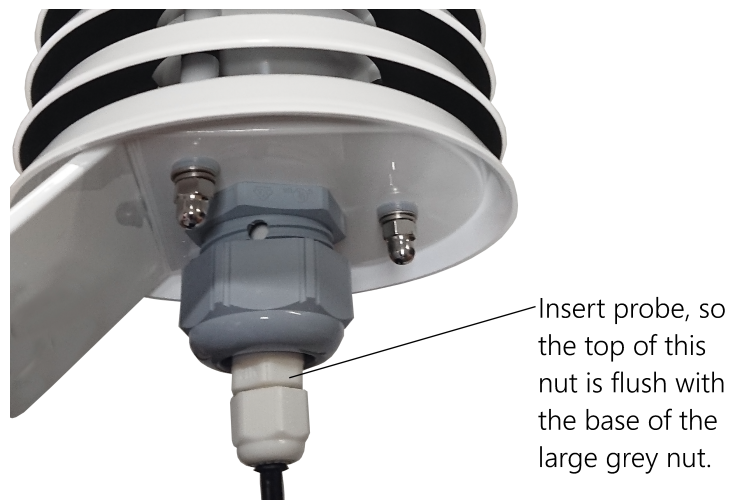

FIGURE 7-1. HygroVUE 5 detail of insertion in a RAD06 shield
2. Insert the sensor into the gland. See FIGURE 7-1 (p. 11). The sensor should be pushed into the shield all the way, so only the hexagonal parts of the white cable gland at the end of the probe are just outside the hole in the large grey nut.